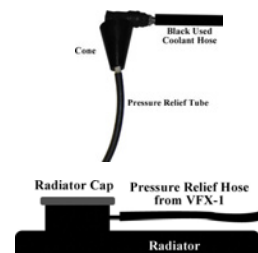

Figure 3
- 6) Insert rubber “pressure relief hose” into opening of cone. (Fig 3) Connect cone assembly to BLACK/USED coolant hose and open used flow control valve.